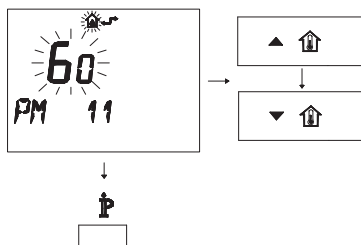

Fig. 7.31
- To modify the programmed SET, act on buttons \blacktriangle or \blacktriangledown and wait for the programmed number to flash (Fig. 7.31). Each step increased or decreased corresponds to 1 second.